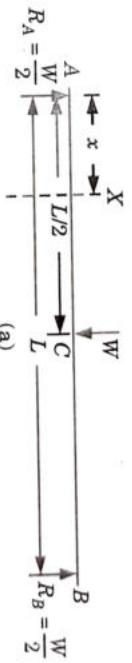

Fig. 1.20.1. SFD and BMD.
- Fig. 1.20.1 shows a beam  $AB$  of length  $L$  simply supported at the ends  $A$  and  $B$  and carrying a point load  $W$  at its middle point  $C$ .
4. Hence, bending moment at  $C$  is  $WL/4$  and it decreases to zero at  $B$ . Now the BM diagram can be completed as shown in Fig. 1.20.1(c).